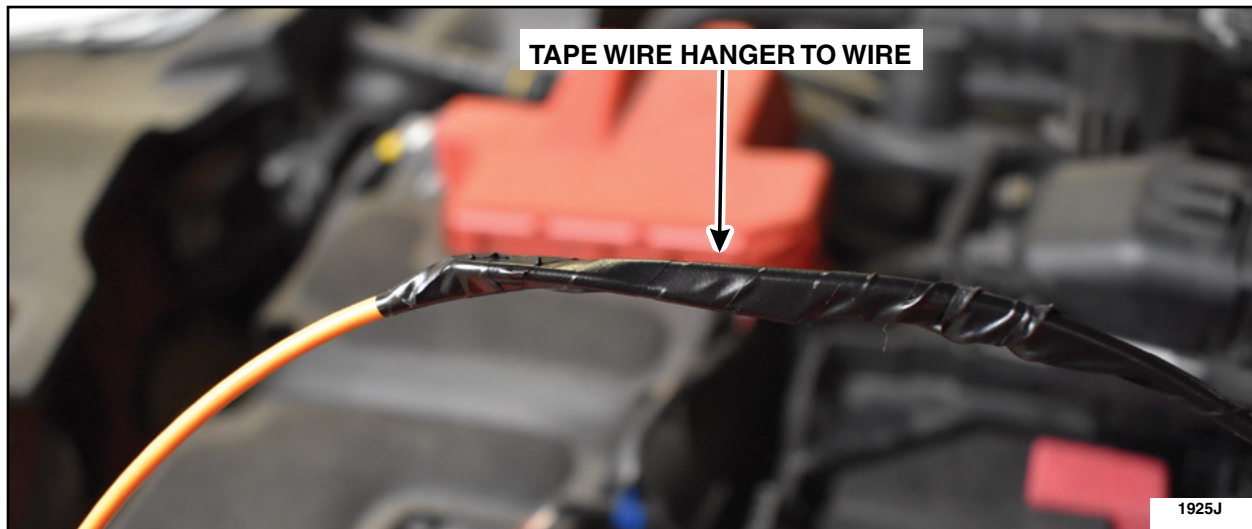

FIGURE 10
12. Tape the wire hanger to the wire being routed inside the passenger compartment, add at least 4 inches of tape to ensure the wire hanger and wire make it through the grommet. See Figure 10.